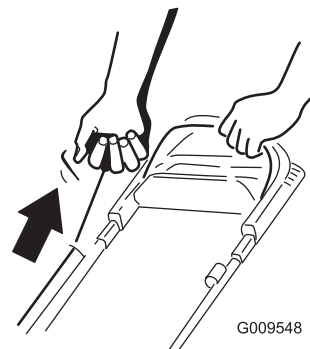

Figure 17
2. Pull the recoil-start handle (Figure 17).
Note: When you pull the recoil-start handle, pull it lightly until you feel resistance, then pull it sharply (Figure 17). Allow the rope to return to the handle slowly.